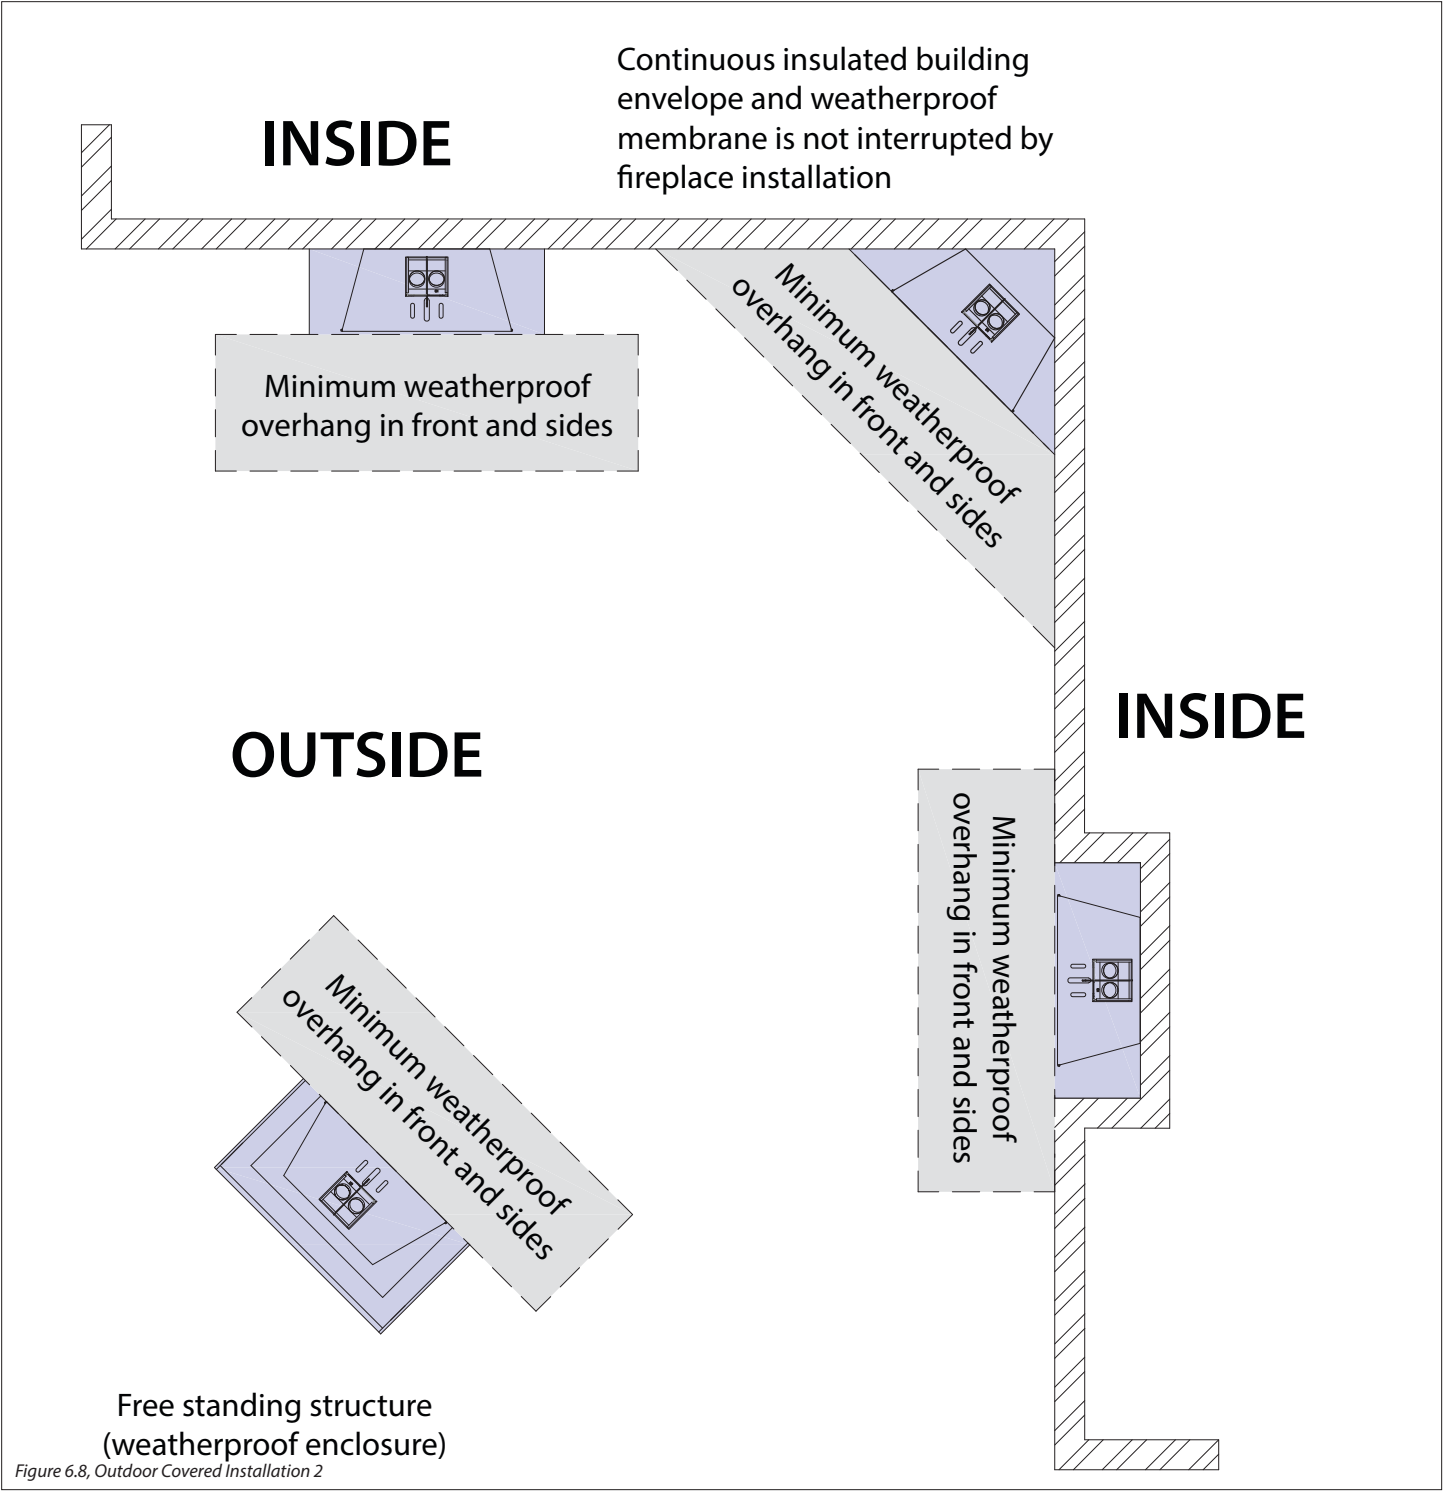

Figure 6.8, Outdoor Covered Installation 2
- The continuous insulated building envelope and weatherproof membrane is not to be interrupted by fireplace installation. See Figure 6.8 on the following page.